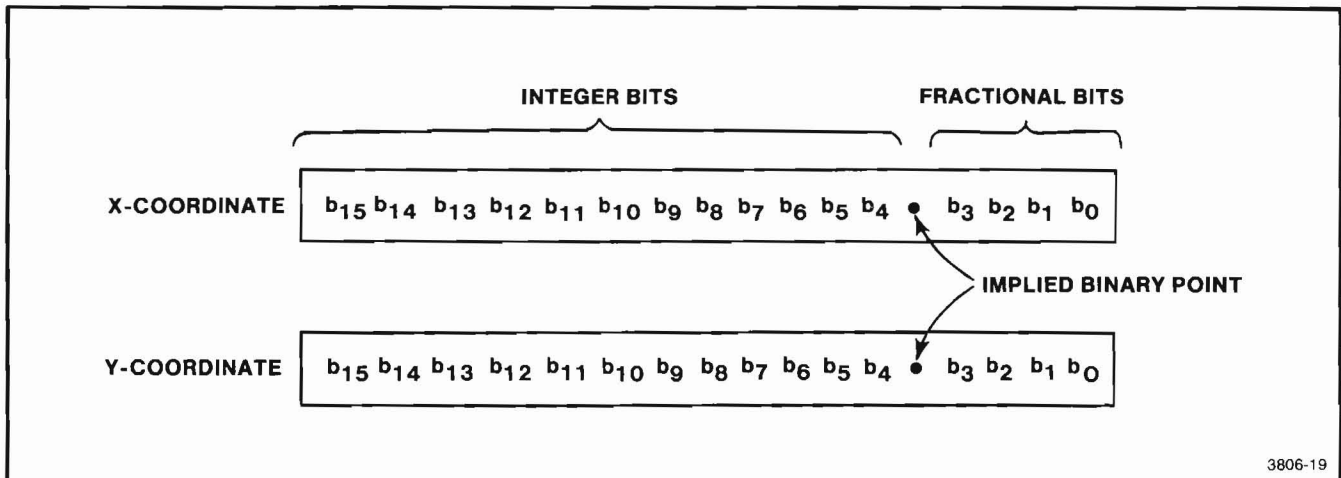

Figure 4-13. 16-Bit Binary Coordinates.
**Coordinate Encoding.** The X,Y coordinate pairs sent to the Plotter as MOVE or DRAW command coordinates are described as two 16-bit binary coordinates in Figure 4-13. Thus, each coordinate has 12 bits of integer value and 4 bits of fractional value. This gives a 0 to 4096.9375 coordinate range where the units are in ADU's.